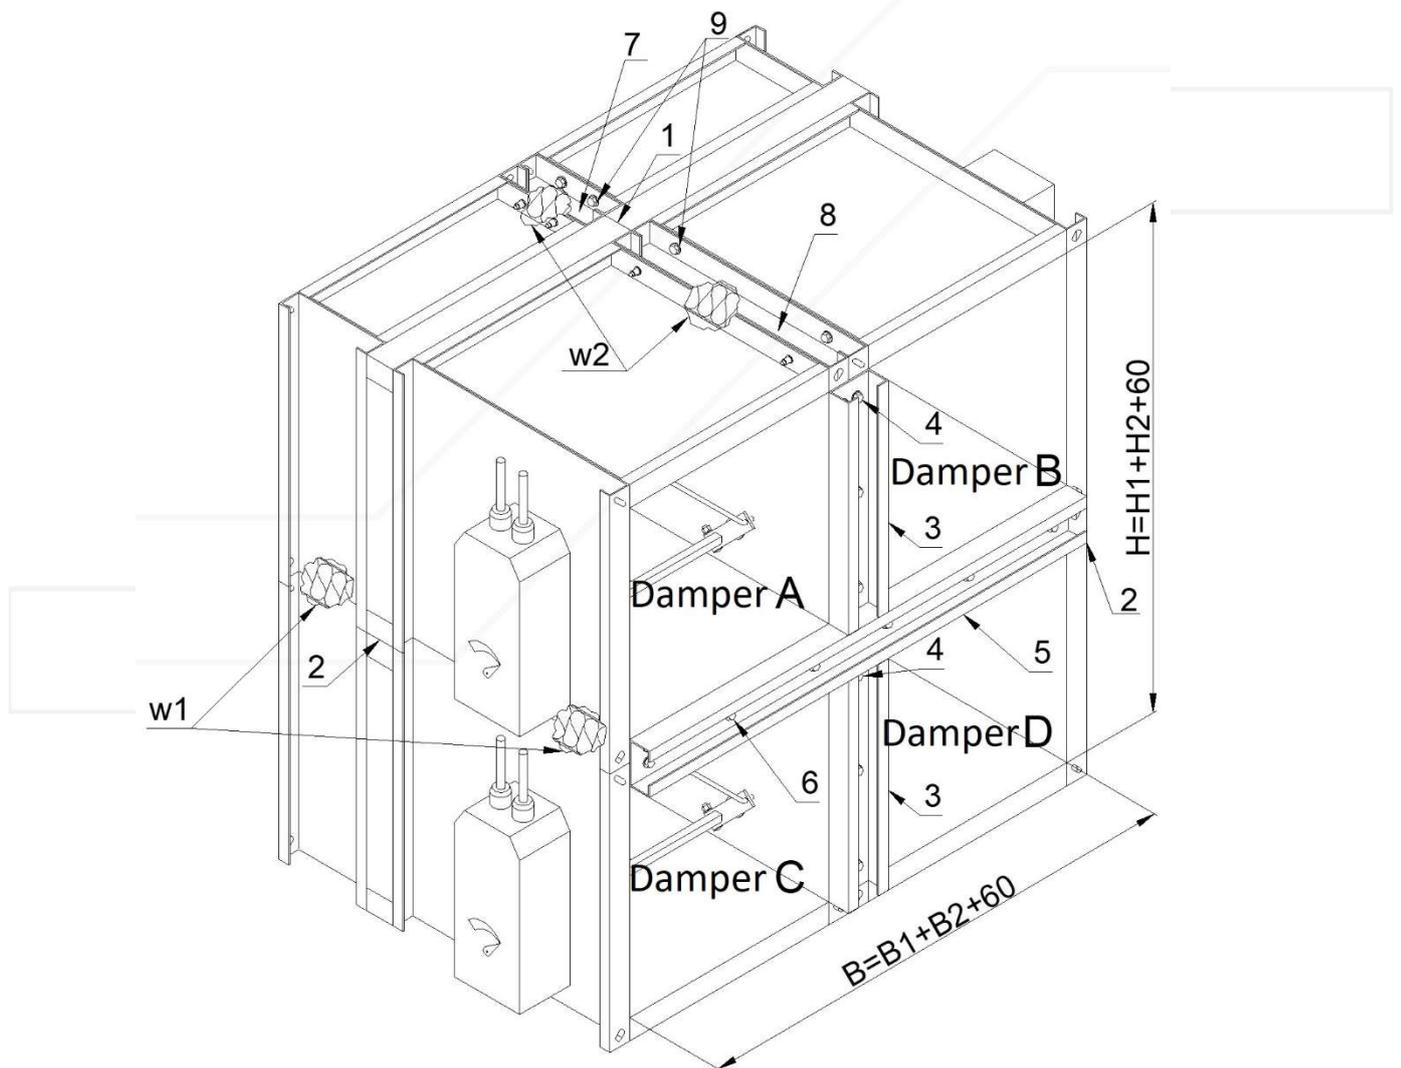

Figure 15. Battery made of four dampers KWP-O
**Arrangement 4** – battery consisting of four fire dampers KWP (Figure 15)
- a. Fix the gasket on insulating spacer of one of adjoining fire dampers (position (1) in the Figure 15).
- b. Set together the sides of fire damper A and the fire damper B (where the gasket was fixed) and assemble them together on the front and back with use of perforated assembly strips (2) and self-tapping screws M6x10 (3), which should be tightened into the openings in fire damper body. In order to carry out the correct assembly, 4 self-tapping screws should be used per each assembly strip with length of 1200 [mm].
- c. Place the set of fire dampers A and B on the set of fire dampers C and D and assemble them together on the front and back with use of perforated assembly strips (5) and self-tapping screws M6x10 (6), which should be tightened into the openings in fire damper body. In order to carry out the correct assembly, 4 self-tapping screws should be used per each assembly strip with length of 1200 [mm].
**Installation of KWP fire dampers batteries in rigid wall compartment (Figure 15 to 18)**
- For vertical battery consisting of two KWP fire dampers:  $(B1+120) \times (H1+H2+180)$  (Figure 15),